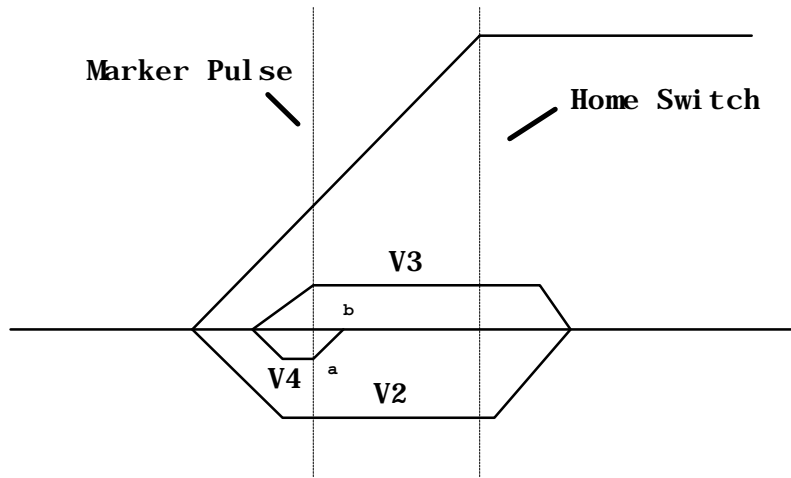

Figure 3-4 Axis Homing Routine
3.2.5.1 Homing Procedure--Refer to Figure 3.4